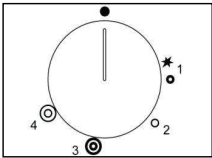

Fig.19
• **-Use of the dual burner (Fig19)**